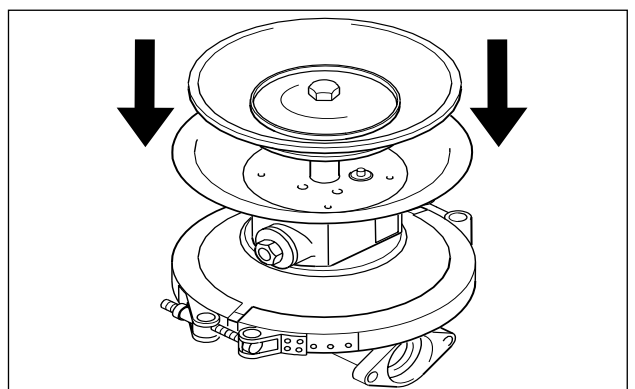
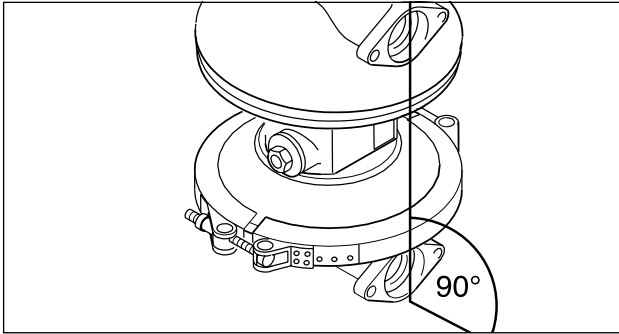

Fig. 15: Assembly of second pump chamber
Fig. 7: Alignment of pump chambers
- Assembly of the pump chamber: Assembly of diaphragm, fixation by fastening the outer diaphragm plate according to Section 11 "Tightening torques". The pump chambers must generally be assembled with the diaphragm in suction position (Press diaphragm plate into air chamber) (Fig. 15). Fasten clamp band or mounting flange. Assemble the second diaphragm in the same way. The flange face of the pump housing must be in line (Fig. 7).